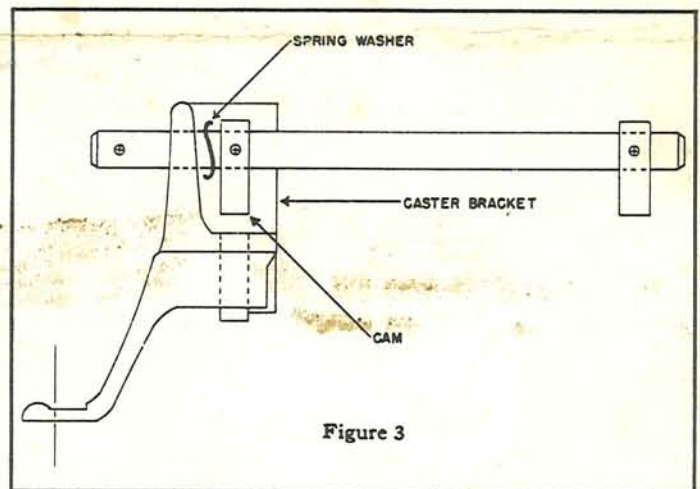

Figure 3
4. Assemble wave spring washer MS-109 and caster mount bracket on one shaft and spring washer and bracket on the opposite shaft, as shown in Figure 3.